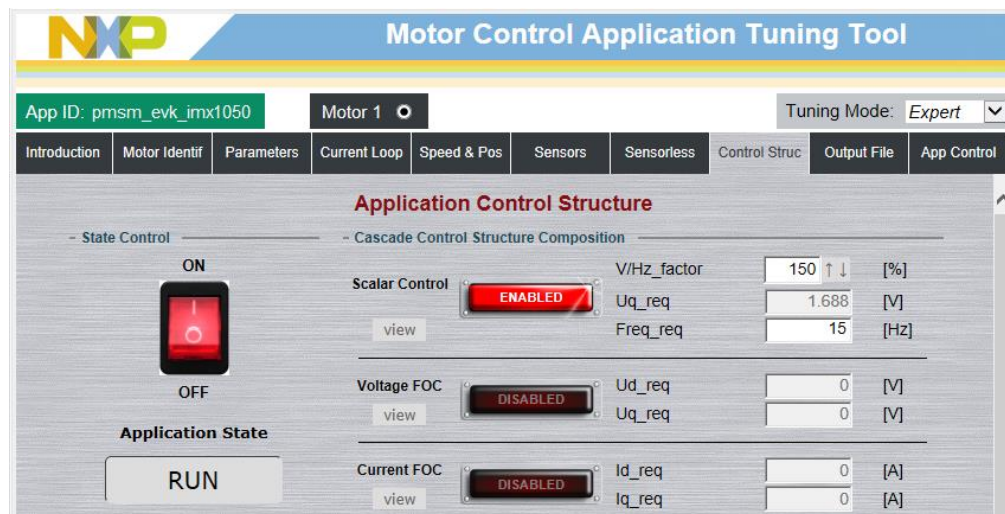

Figure 22. MCAT scalar control
- Set the required frequency value in the “Freq_req” field; for example, 15 Hz in the “Scalar Control” section. The motor starts running (see Figure 22).